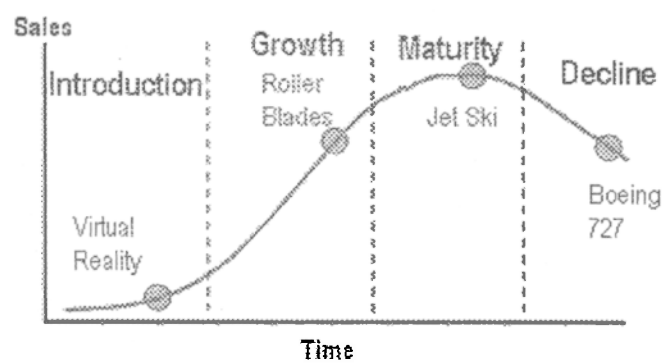

Figure 2 : Product life cycle
- (b) A product will go through its life cycle; introduction, growth, maturity and decline as shown in **Figure 2**. Discuss what happen to the product during the growth ,maturity and decline phase.